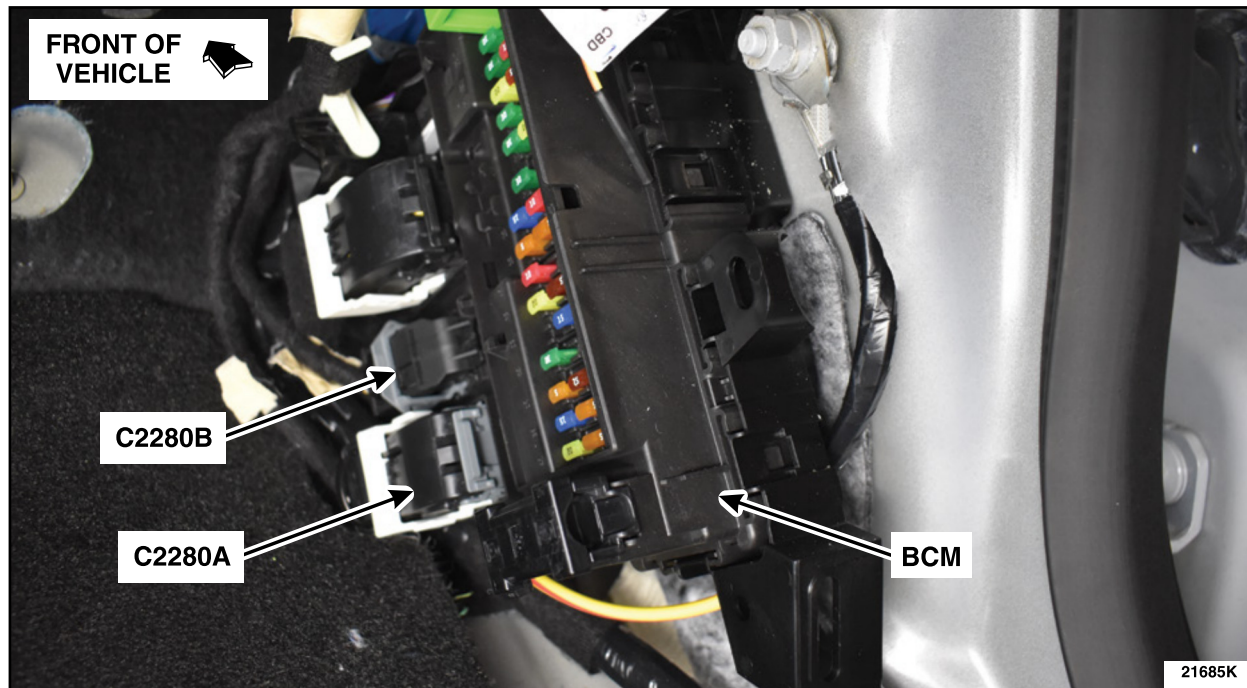

FIGURE 10
14. Disconnect C2280A and C2280B from the BCM. See Figure 10.